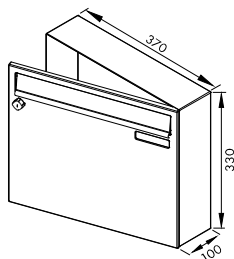

Fig. 8. BOX 6 letter box.
- **BOX 6** - dimensions 370 x 330 x 100 [mm] - Fig. 8.